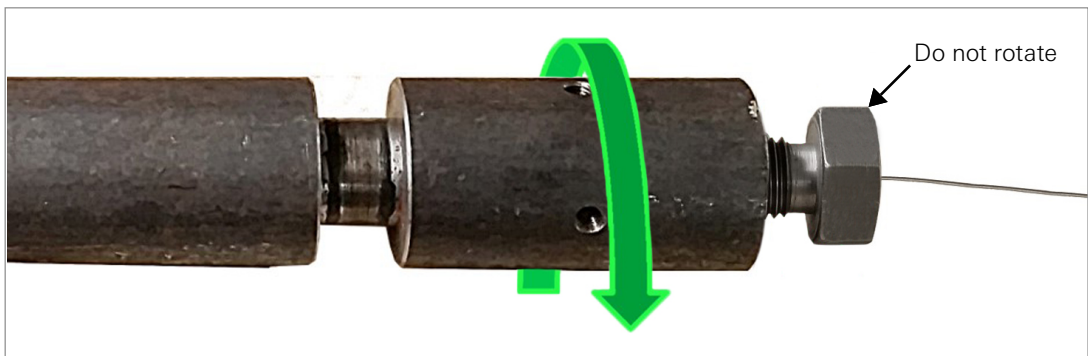
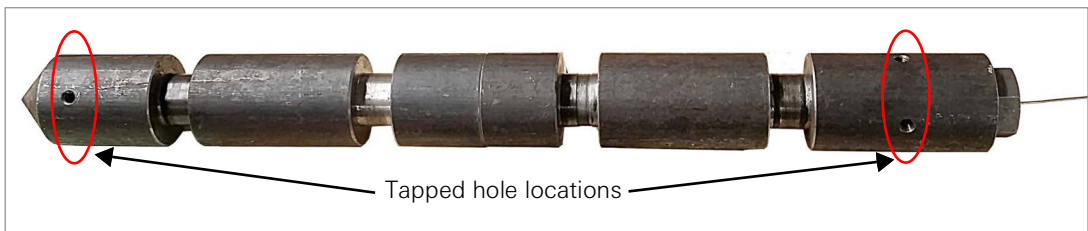

FIGURE 22: Anchor Nut Attachment
FIGURE 23: Completed Anchor Assembly
- Thread the anchor mating end into the anchor nut (Figure 22). The completed anchor and wire assembly is shown in Figure 23.
- Install four customer supplied M10 bolts of sufficient length (based on the borehole diameter) into the tapped holes at the top and bottom of the anchor (locations shown in Figure 23) to help centralize the anchor in the drilled borehole.